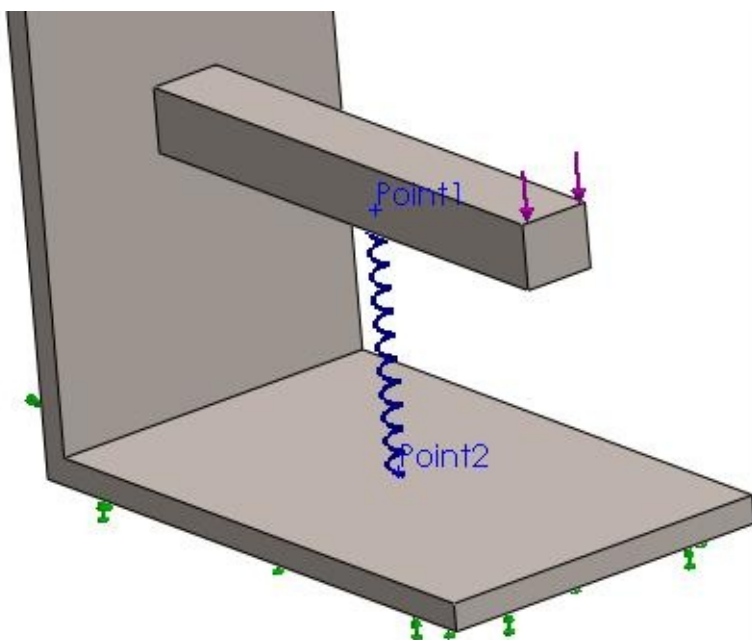

Figure-12. Spring between points
- Click on the **OK** button from the **PropertyManager**. A spring with damper will be added between the specified points; refer to Figure-12.